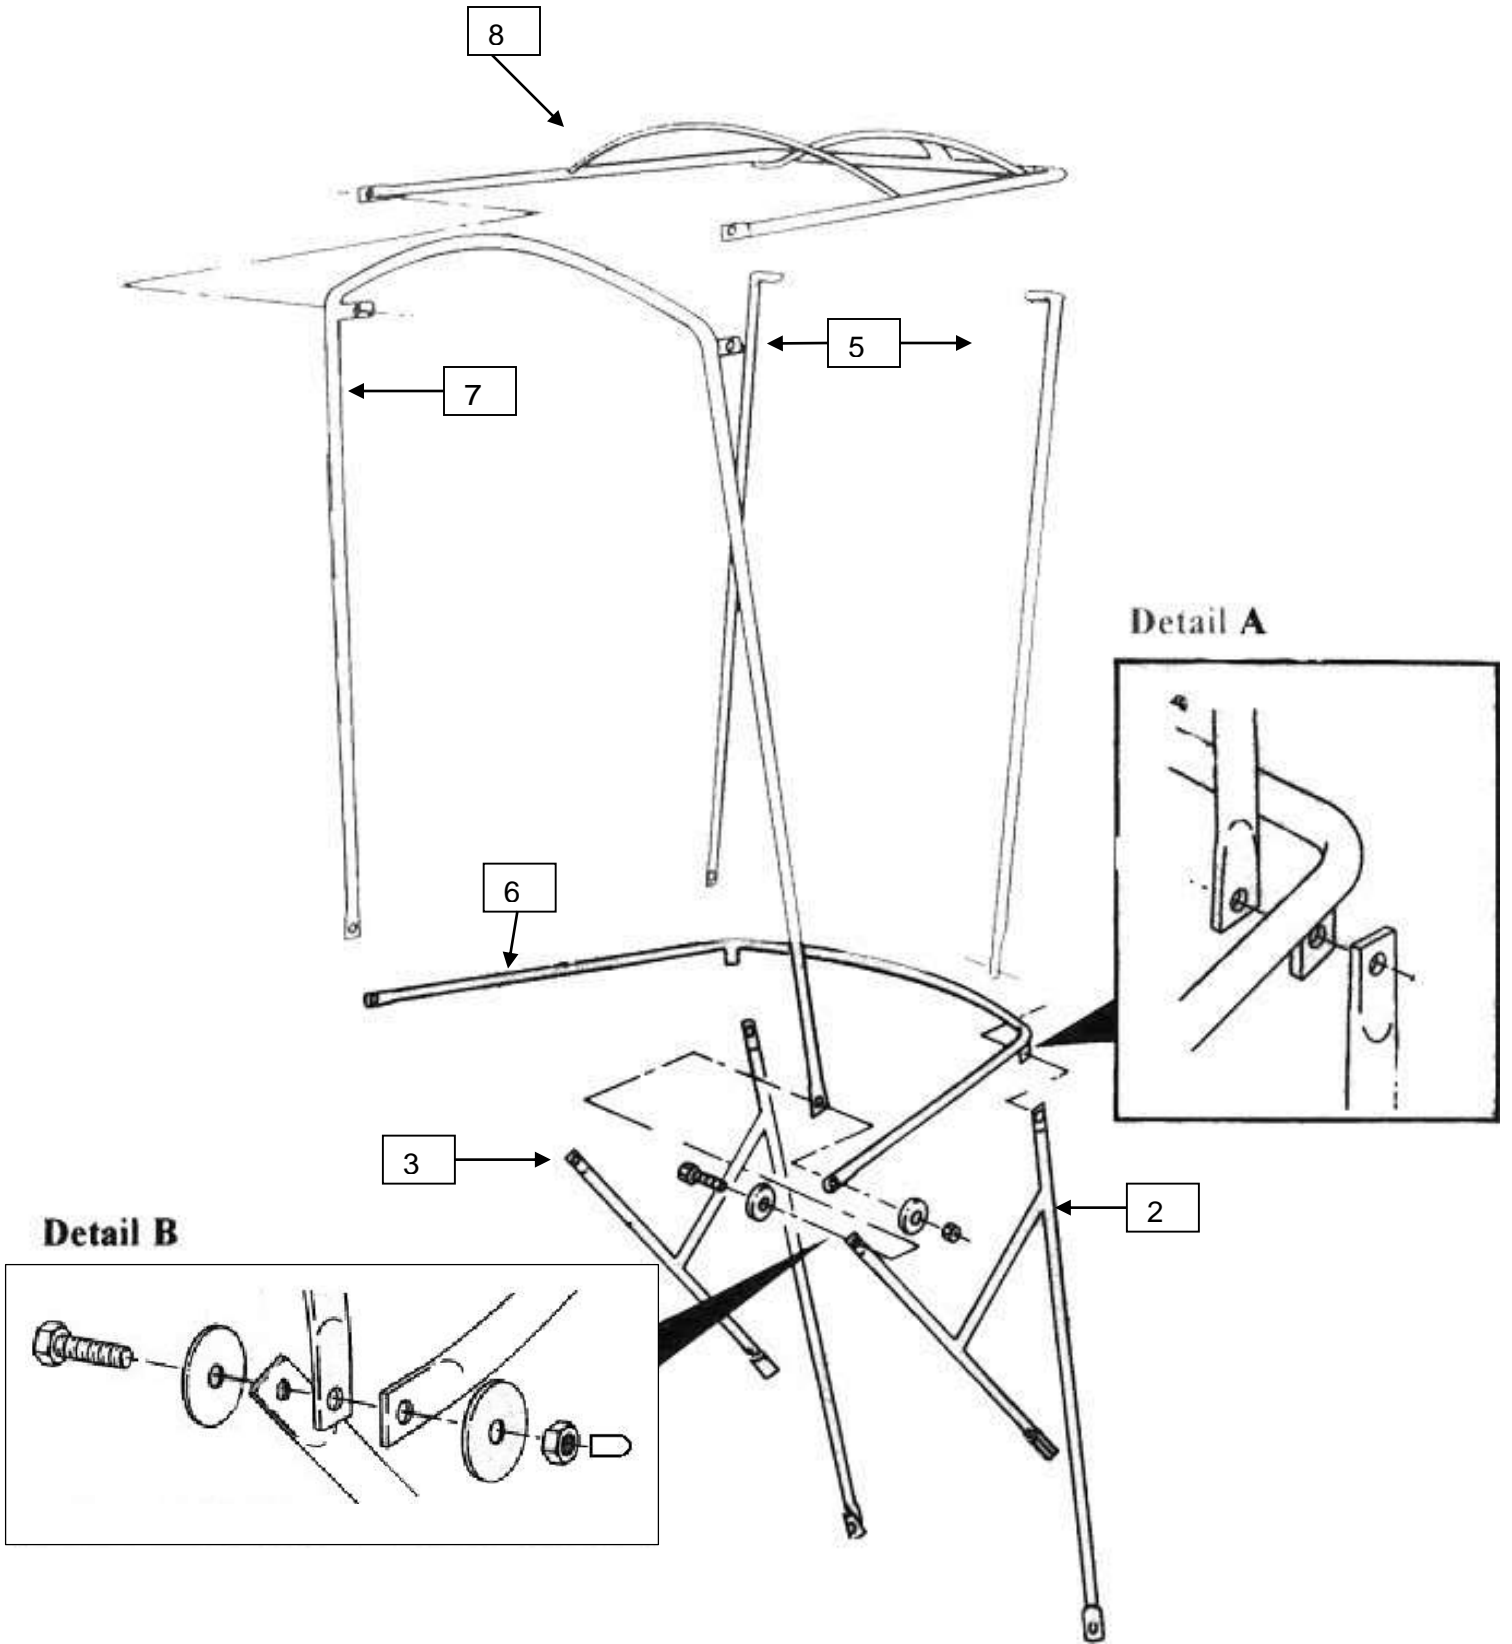

Figure 4
Step 4; See Figure 4:
- A. Attach the Horizontal Bow (6) and the Front Posts (5) to the Brackets (2 & 3) using two 1/4" x 3/4" bolts and locknuts (refer to detail A).
Step 5; See Figure 4:
- A. Mount each leg of the Rear Vertical Bow (7) to the Brackets and the Horizontal Bow using a 1/4 x 1" bolt, two 1/4" fender washers, and a locknut (refer to detail B).
Step 6; See Figure 4:
- A. Attach the Top Frame (8) to the Rear Vertical Bow and the Front Posts using four 1/4" x 5/8" bolts and locknuts.
- D. **Tighten all the bolts** making sure that the Rear Vertical Bow (7) is at a **90-DEGREE** angle to the Horizontal Bow (6). The Windshield area will lean slightly forward when the frame is properly assembled.